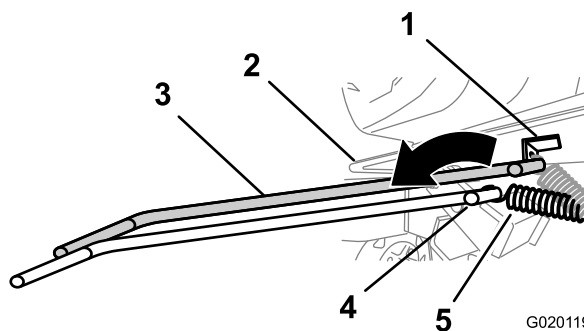

Figure 49
5. Using a spring-removal tool, (Toro part 92-5771), remove the spring from the anchor bracket on the engine deck (Figure 49).
7. Using a spring-removal tool, (Toro part 92-5771), install the tension spring to the anchor bracket on the engine deck (Figure 49).